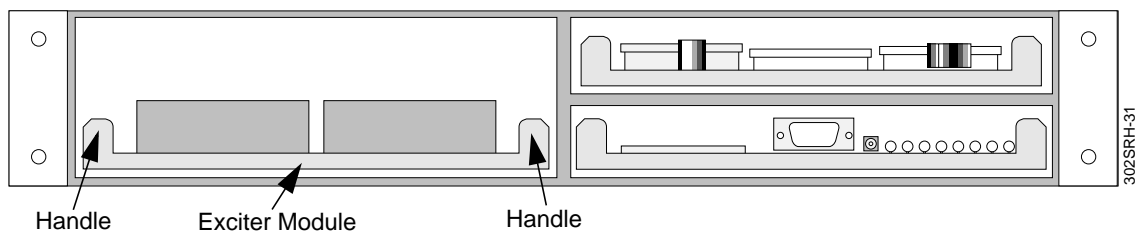

Figure 6-10: Front View of the Exciter Location in the OCM (Cover Removed)
4. Using the handles located on each side of the exciter module, gently remove the module from the chassis (see Figure 6-10).
1. Using the bottom guide rails, install the replacement exciter module by gently sliding the module into chassis (see Figure 6-10). Ensure that the exciter connectors are firmly seated to the backplane.